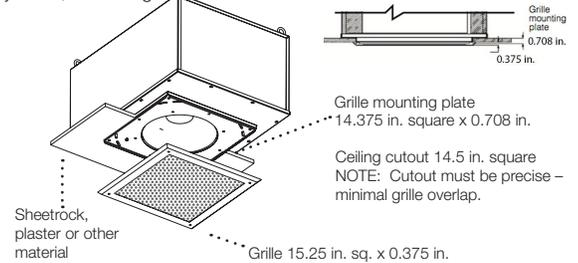

Fig. 3: Typical Wiring
1). Typical Wiring Method (Fig. 3):